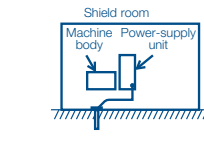

Fig. 3
1. Ground the EDM in the shield room (Fig. 3).